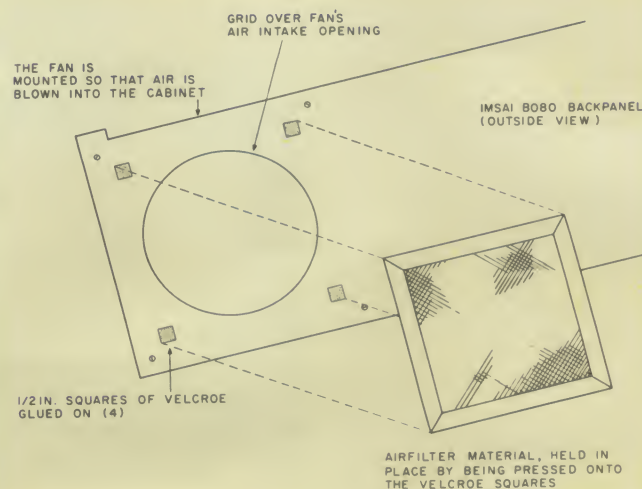
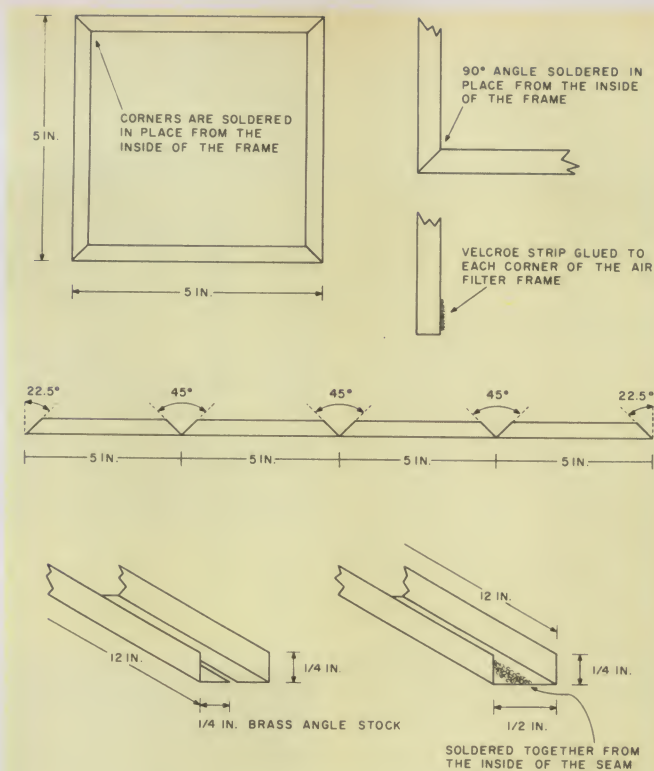

Fig. 4. Modification of fan mounting in the Imsai 8080.
Fig. 5. Construction details of the air filter assembly.
The second change is to have the muffin fan mounted so that it blows air into the cabinet rather than out (see Fig. 4). With the fan blowing air into the cabinet, the power supply components and PC boards in the card cage are bathed with air more uniformly than if air were being sucked into the cabinet from the various openings in the chassis cover. You can check this out by mounting the fan so that air is pushed into the cabinet. Now move your hand along the air vents on the chassis cover. You should find the air flow to be more uniform. The other
advantage is that the air going into the chassis can be filtered of dust and dirt (see Fig. 4) at the fan intake opening. Figs. 5 and 6 give details of a small air filter which can be built for a few dollars, does a reasonable job and can be cleaned with a vacuum cleaner.
Fig. 4. A road and a pyramid. This simple data base will be used for illustrative purposes. Notice the coordinate numbering sequence and the X, Y and Z directions.
Fig. 5. A flat and a perspective projection of a cube onto a screen. The perspective projection pushes points in the distance toward the screen's center by dividing by the depth (Z).
hand with grid paper is probably the best choice. Fig. 4 shows a simple data base which shall be used in the examples henceforth. The sixteen points are numbered in the optimal order for stringing lines together with continue points.